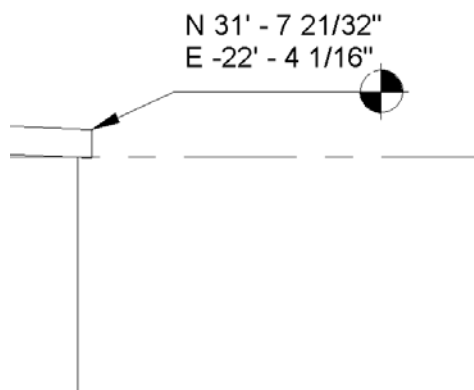

Figure 4.45
- **Spot Coordinate** displays the north/south, east/west coordinates of a selected point and can display the elevation (height) of the selected point (see Figure 4.45).